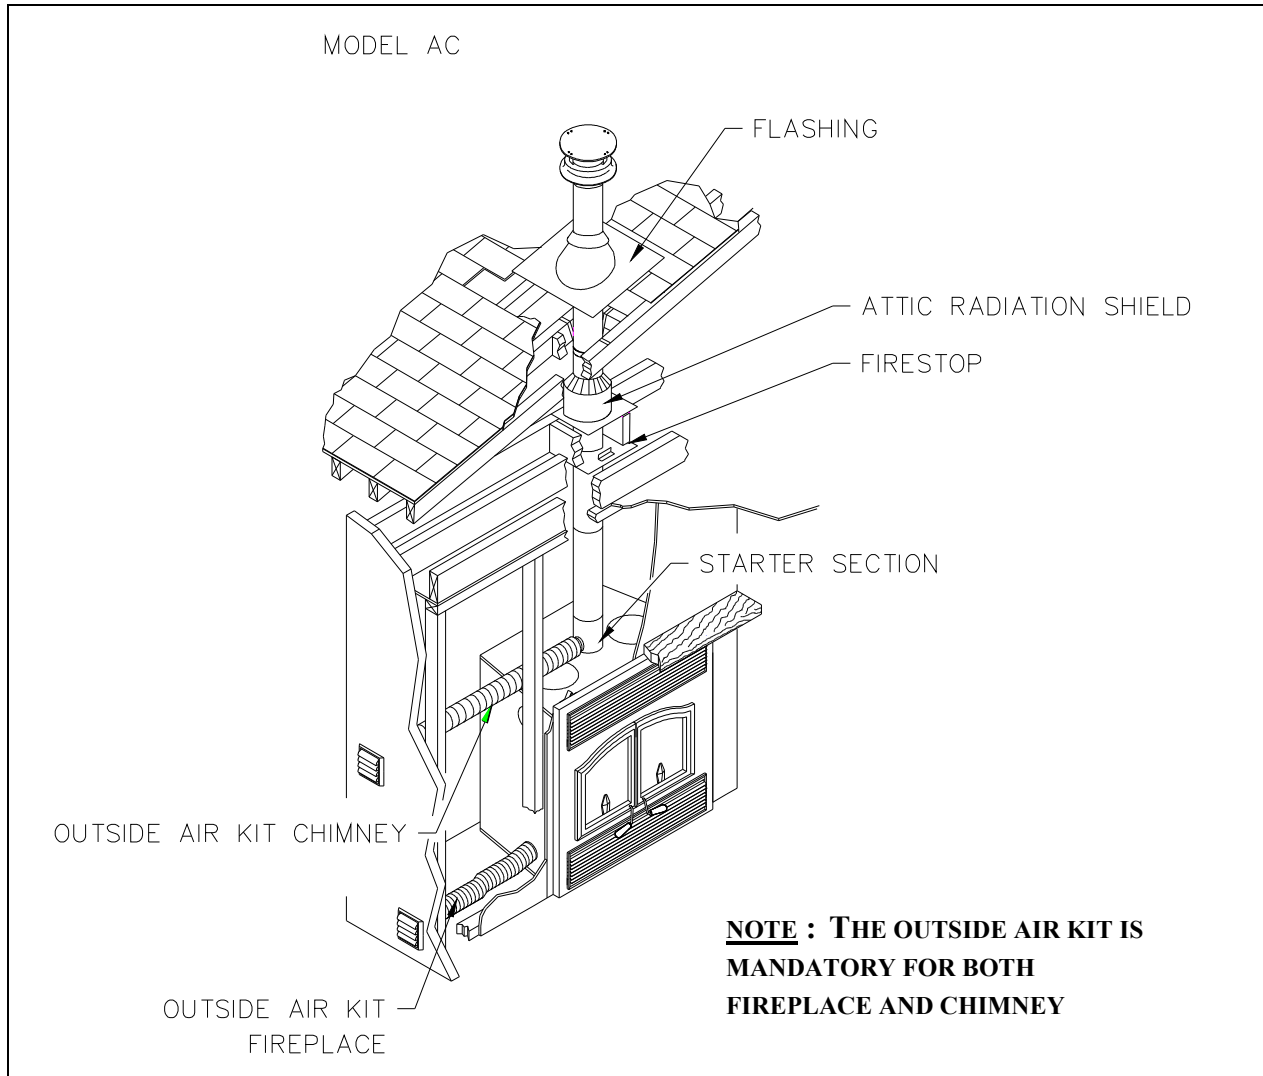

Figure 25
3. For Secure TempASHT+ / Nova TempHT6103+ and Secure TempS2100+ / Nova TempHT6000+ chimneys, place the first chimney length on the fireplace. To lock it in place, turn ¼ of a turn clockwise. With the AC chimney, you must use a starter section before installing the first chimney length (figure 25). Continue installing chimney lengths making sure to lock each length in place.